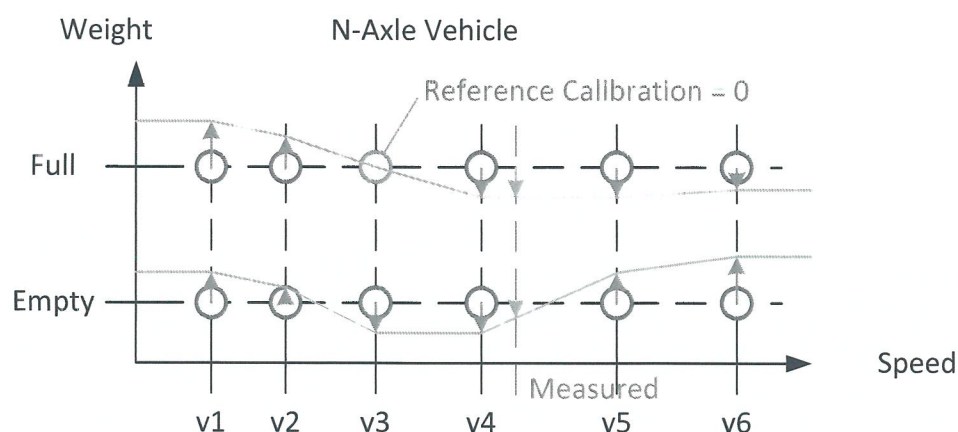

Figure 4: Weight & Speed dependent Interpolation
3. **Speed (if enabled):** For both weight columns (empty&full), the factors are calculated by linear interpolation for the actual speed value (See Figure 4)